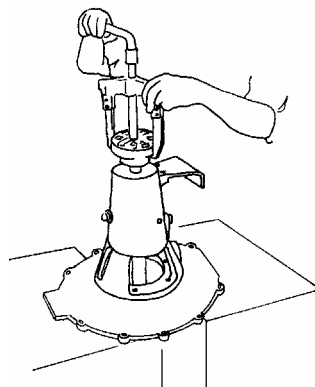
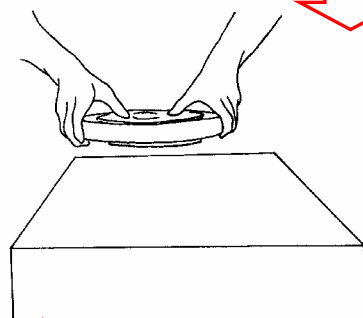

Fig. 8
Fig. 9
- 11) Extraction of the semi-coupling must be carried out by putting the shaft support (pos. 1) and the rear armature (pos.2) in a vertical position on two level surfaces distanced one between the other thus creating a space in which to insert the protruding part of the shaft. Remove the hub with the help of an extractor **fig. 8 (only CGD series)**.
- 12) Extract the impeller from the support, not before having disassembled the little lids of the bearings (pos. 11) **(only series CGD)**.
- 13) With a press (if one is not available a rubber hammer) extract the shaft completely from the support (pos. 9) and from the rear bearing (pos. 10) **fig. 9**. Attention! Before carrying out this operation, remove the tongue housed on the shaft (pos. 18)**(only series CGD)**.